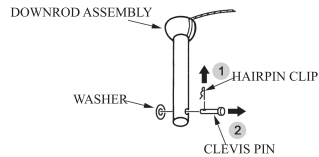

FIG.3
1. Remove the hairpin clip & washer from the clevis pin and remove clevis pin from down rod. (see Fig.3)